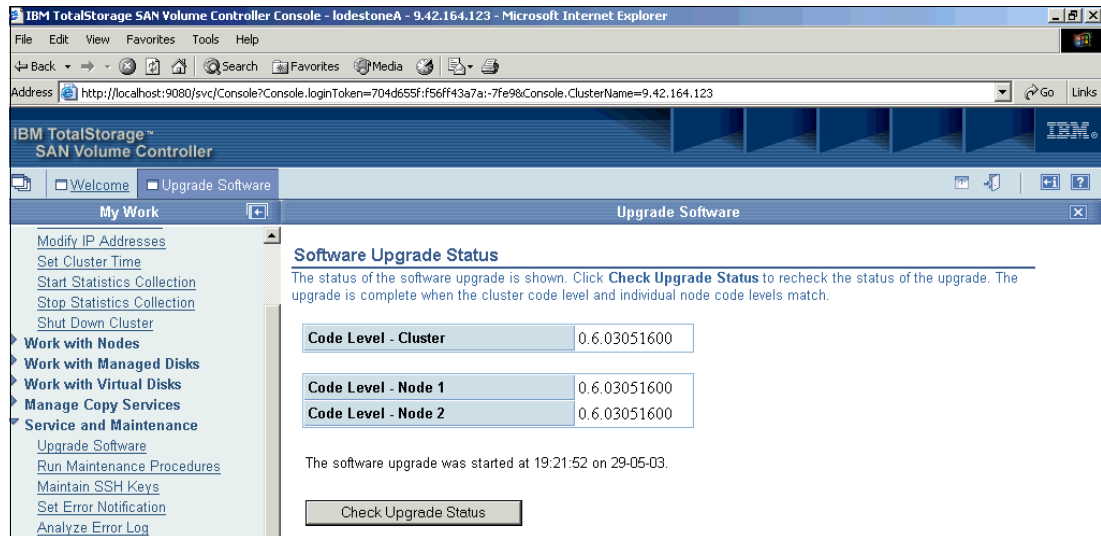

Figure 9-82 Software Upgrade Success
9. Eventually you see the Software Upgrade Status panel (Figure 9-82) display the same level of code on all nodes and the cluster. Verify that the upgrade was successful. Choose either of these actions: